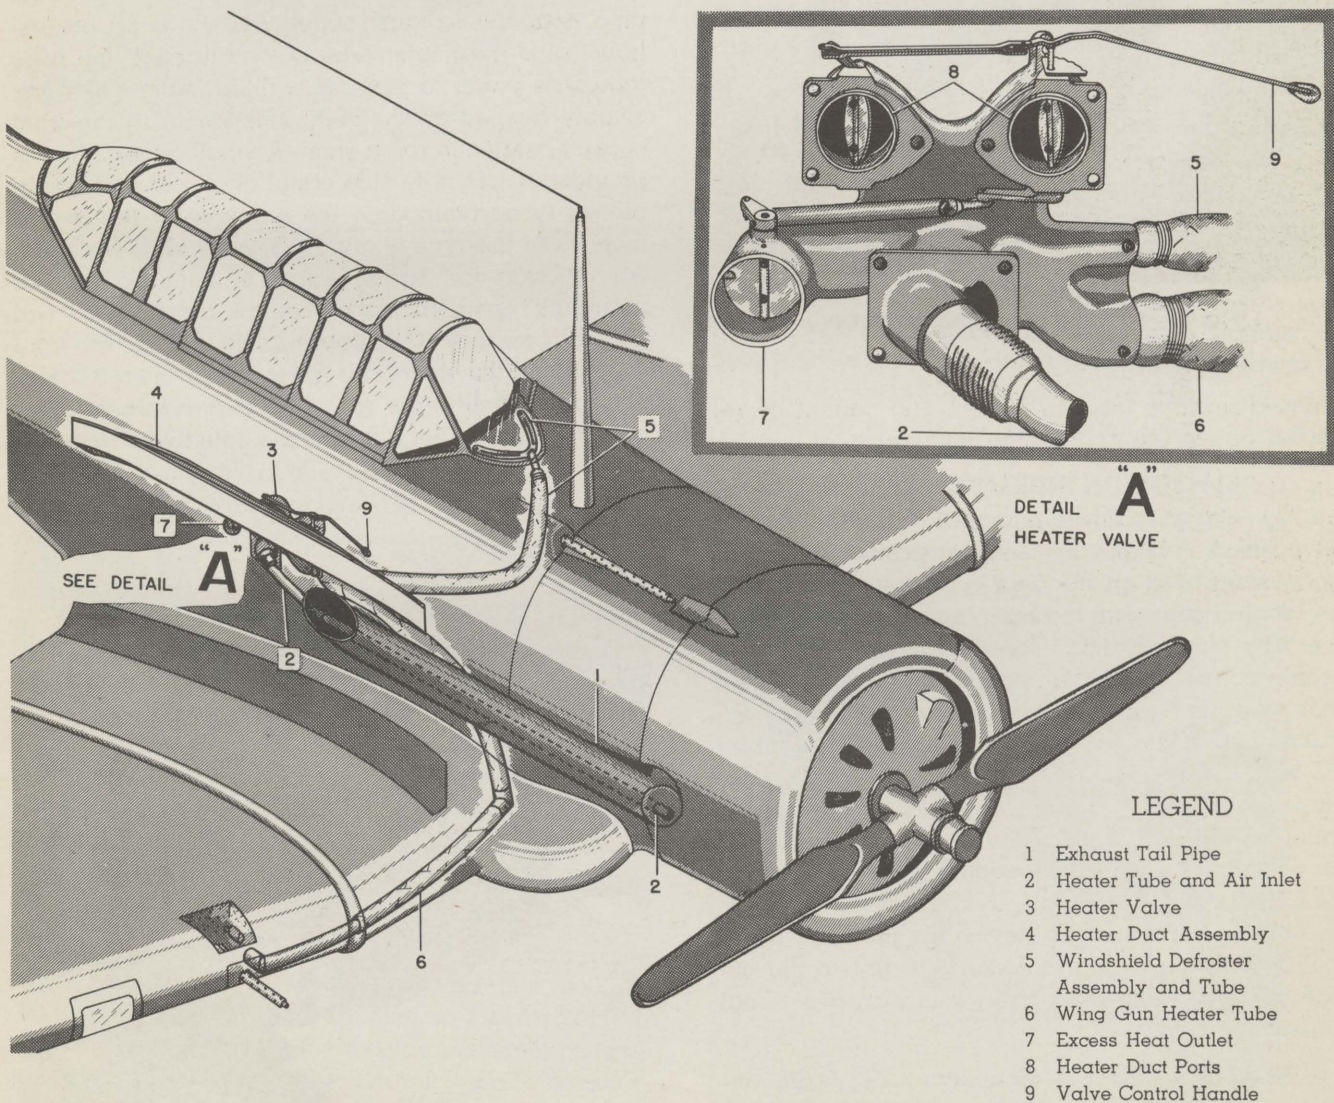

FIG. 29—HEATING SYSTEM DIAGRAM
b. HEATING SYSTEM (See figure 29.)—On airplanes provided with special winterization equipment the installation of a British-type cockpit heating sys-